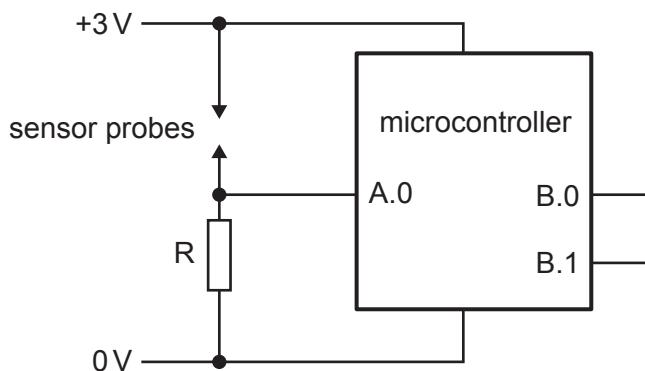

Fig. 4.3
- (ii) Fig. 4.3 shows the sensor circuit for the electronic pen.
A minimum voltage of 2V is required at the microcontroller analogue input A.0 in Fig. 4.3 when the sensor probes are touching a conductive ink disk.
Using your answer to part (b)(i), calculate the minimum value of resistor R required in Fig. 4.3. Give your answer in Ω . Show your working.
- (iii) State, without calculation, the value of the voltage at the analogue input A.0 in Fig. 4.3 when the sensor probes are touching a non-conductive ink disk.